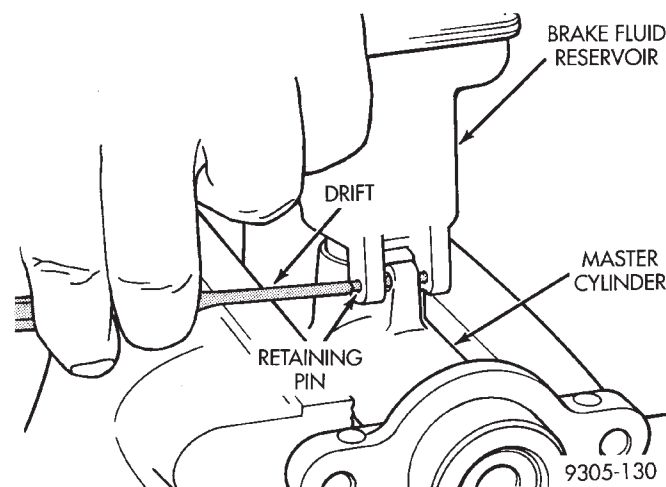

Fig. 156 Reservoir Retaining Pins
(1) Using an appropriate cleaner such as Mopar, Brake Parts Cleaner, clean the master cylinder housing and brake fluid reservoir.
(2) Remove the brake fluid reservoir caps. Using a syringe or equivalent empty brake fluid from reservoir.
(3) Remove the master cylinder from the vacuum booster.
(4) Clamp the master cylinder in vise.
(5) Remove the 2 fluid reservoir to master cylinder retaining pins (Fig. 156).
(3) Make sure bottom of reservoir touches the top of both sealing grommets.
(4) Install the 2 fluid reservoir to master cylinder retaining pins (Fig. 156).